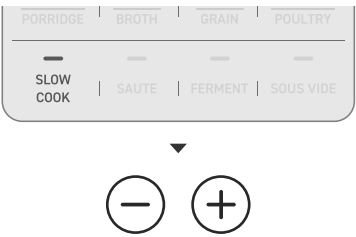

Figure 5.2
- 3. Select **SLOW COOK** and press the – or + buttons to adjust the time if necessary. [Figure 5.2]